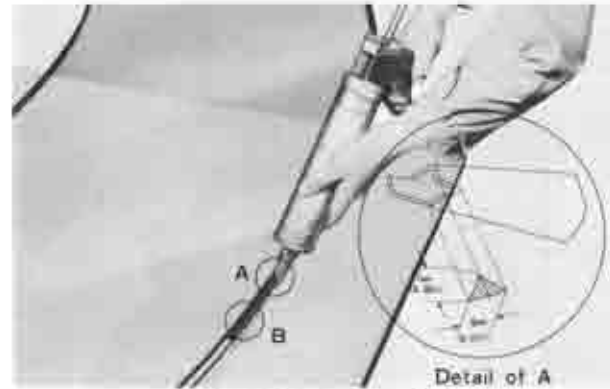

Fig. 14-32 Applying sealant
- (a) Shape the nozzle of the sealant cartridge with the cutting knife as shown in Fig. 14-32. Then, break the film of the sealant with a piece of wire and it is ready for application.